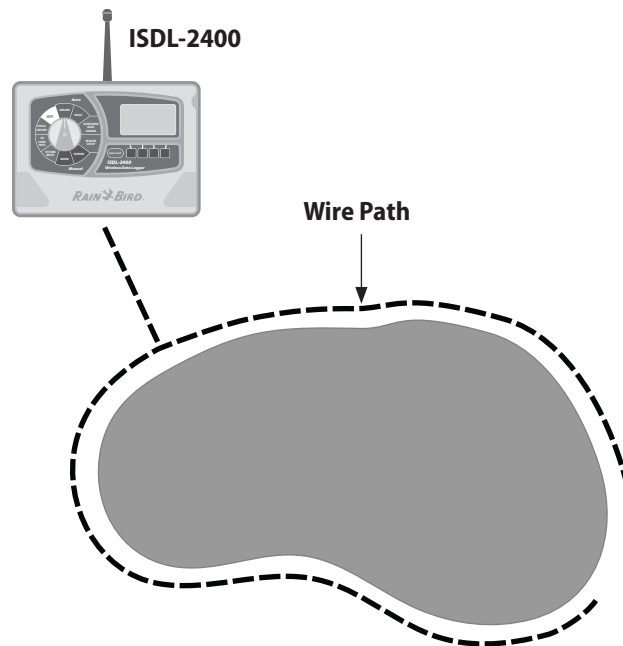

Figure 10 - Wire Path Installation
- 1** Using a spade, sod cutter with blade mole kit, or a vibratory plough, lay cable around the green deep enough to avoid damage from aerification as shown in Figure 10. Start at either the data logger or the furthest valve box location.